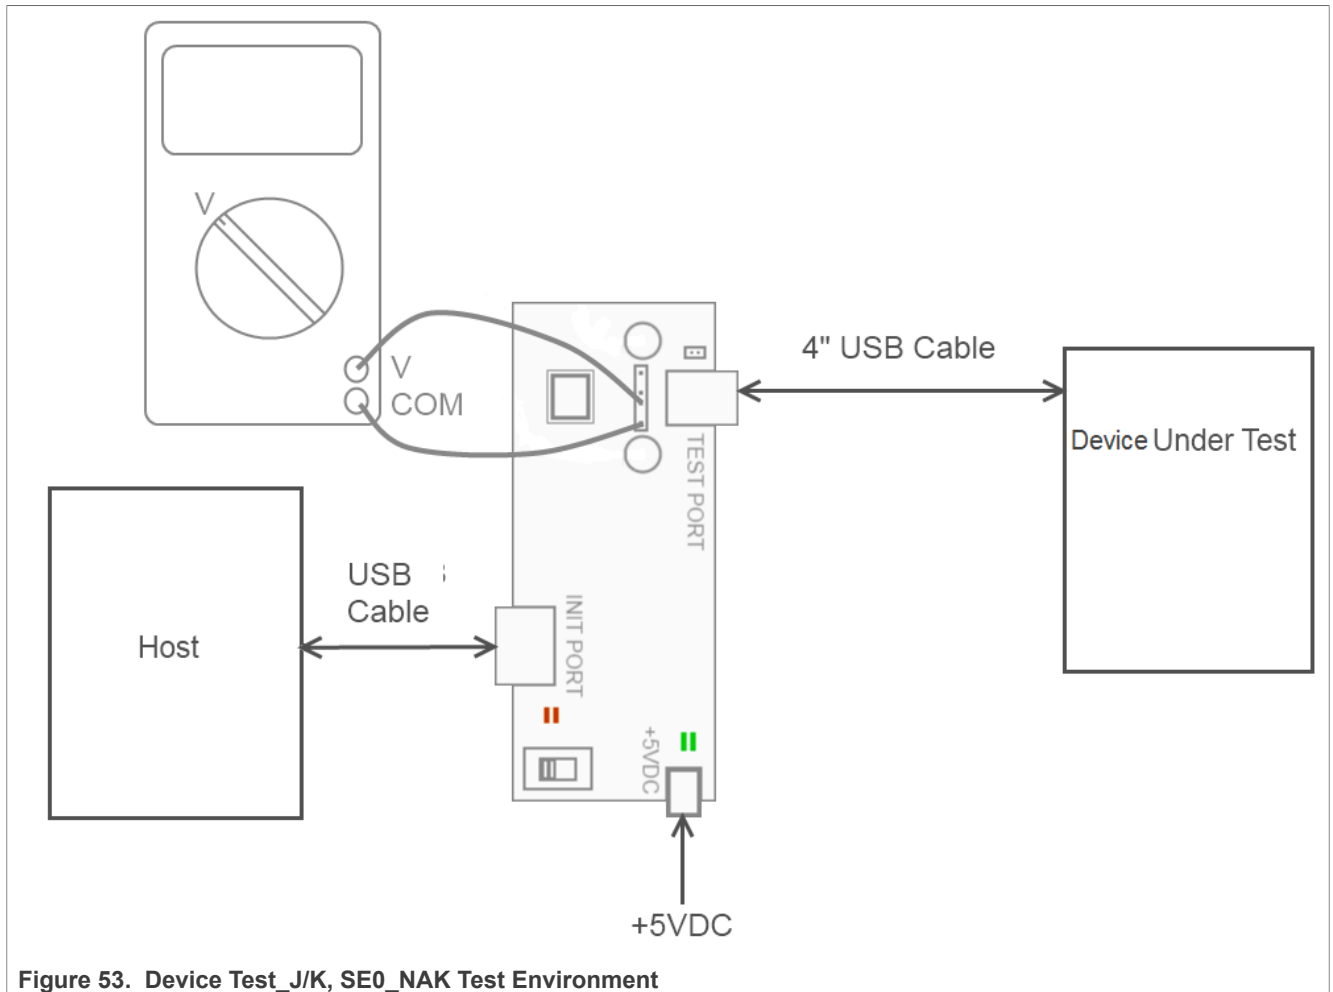

Figure 53. Device Test\_J/K, SE0\_NAK Test Environment
2. Connect the equipment and test fixture as shown in Figure 53.